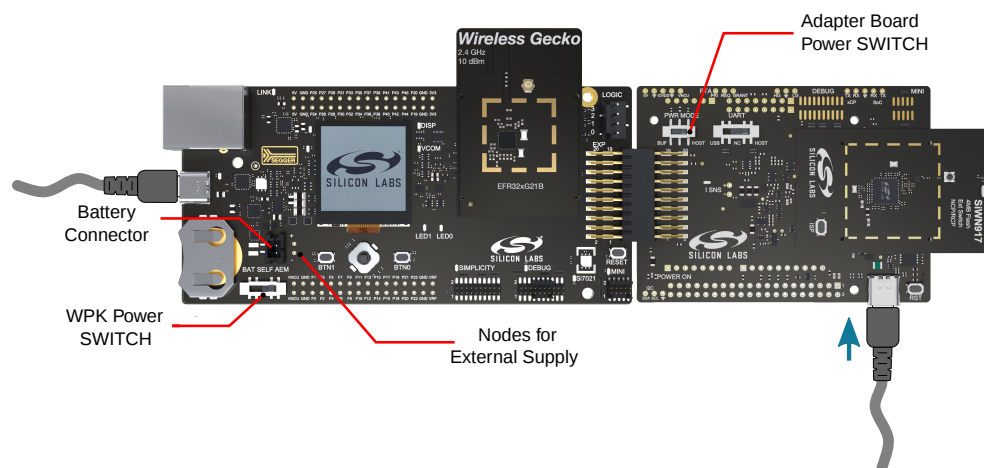

Figure 6.1. Example of current measurement set up with external meter
- a USB cable must be connected to the USB connector on the Adapter Board, as shown in Figure 6.1 for example, to activate the on-board USB-UART bridge